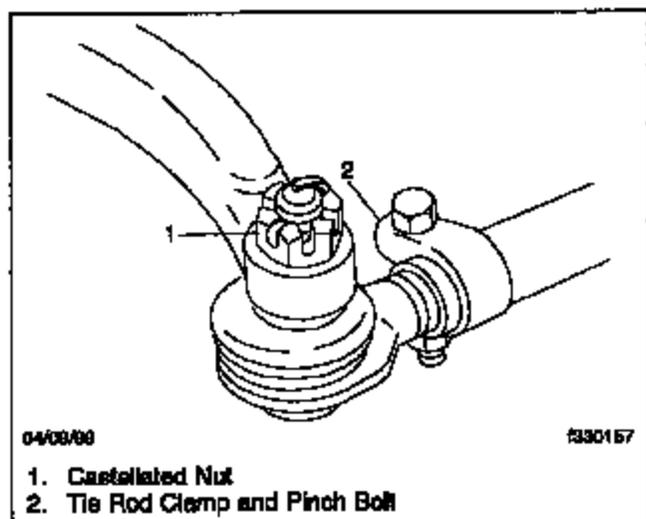

Fig. 1, Tie Rod End
- 2.1 Remove the cotter pin and the castellated nut from the tie-rod ball stud. See Fig. 1.
1. Loosen the tie-rod clamp pinch bolts. See Fig. 1.